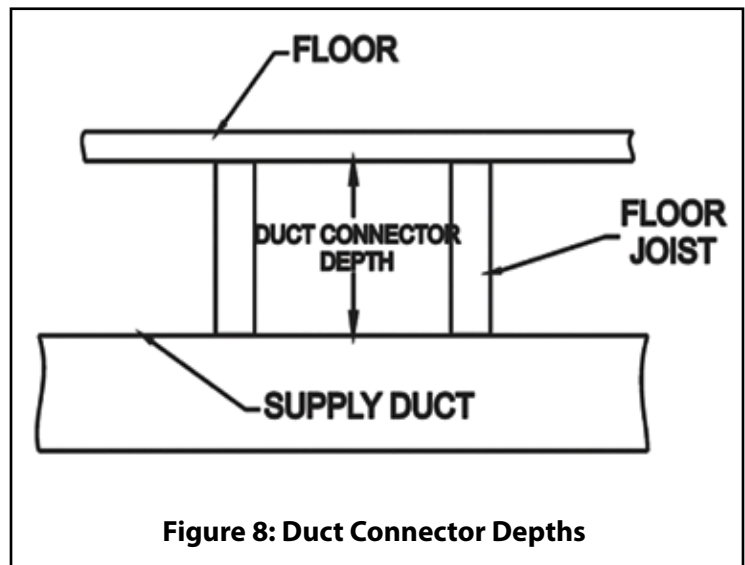

Figure 8: Duct Connector Depths
1. Refer to Figures 8 – 11 for dimensions necessary for duct connector installation.